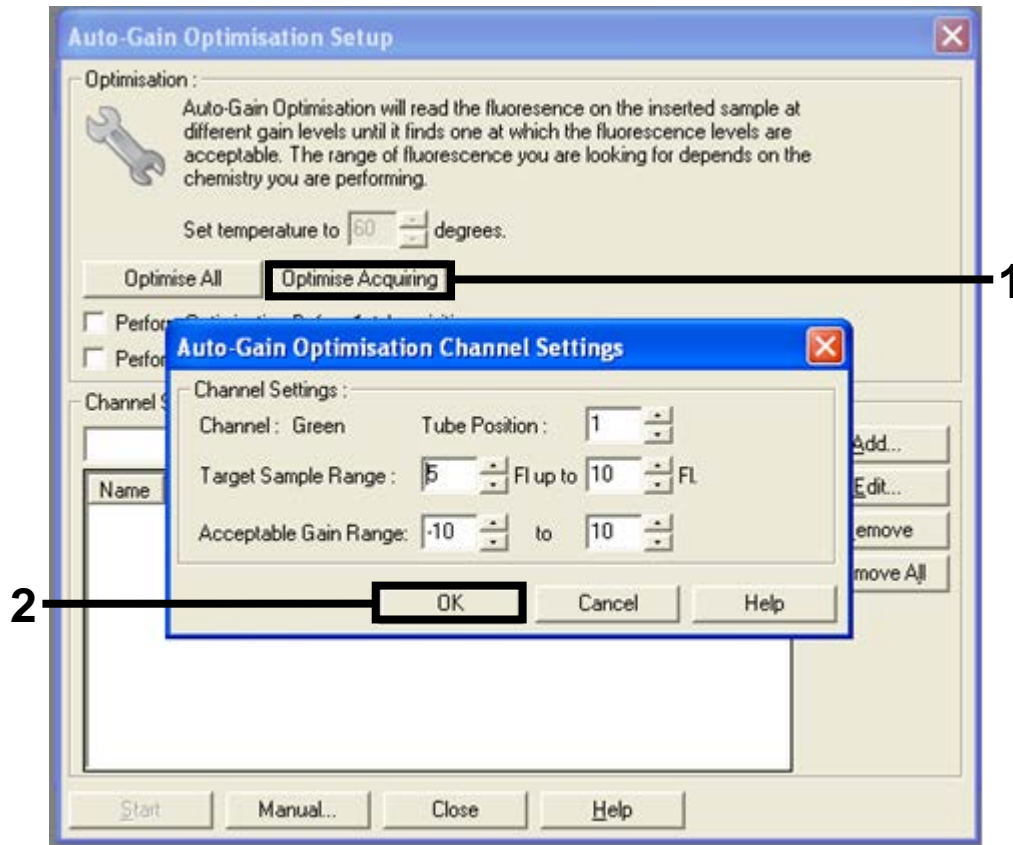

Figure 19. Auto-gain optimization for the green channel. 1 = “Optimise Acquiring” button, 2 = “OK” button.
13. Click the “Optimise Acquiring” button. Channel settings are displayed for each channel. Accept these default values by clicking “OK” for both channels (Figure 19).